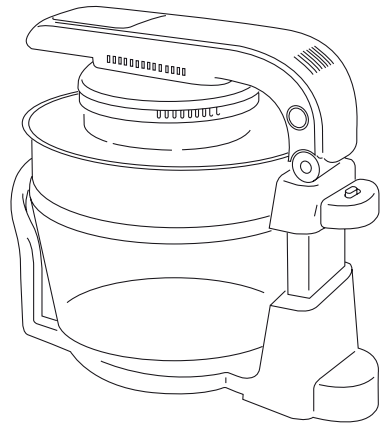

Fig.4
3. Place the extender ring on the glass bowl and close the lid, as illustrated in Fig. 4.